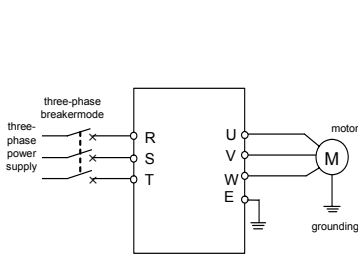

Figure 5-3 Wiring for the operation of SVC mode
1. Connect as per Figure 5-3;
4. Press  key to start frequency inverter. If the name plate parameters (F2.0.00 ~ F2.0.04) of the motor are modified in ③, the primary static parameter identification will be started automatically, the frequency inverter will output 0 frequency and the auxiliary display column will display the current output current (not limited by F0.0.13 at this time). When the display current is stable as 0.0, the automatic learning is finished and operation is started;